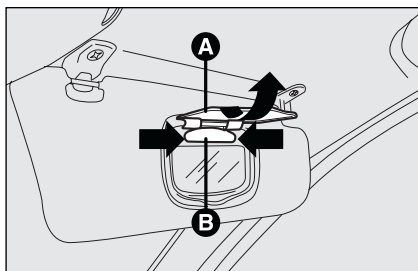

fig. 49
- ☐ open the mirror cover **A**-fig. 49;